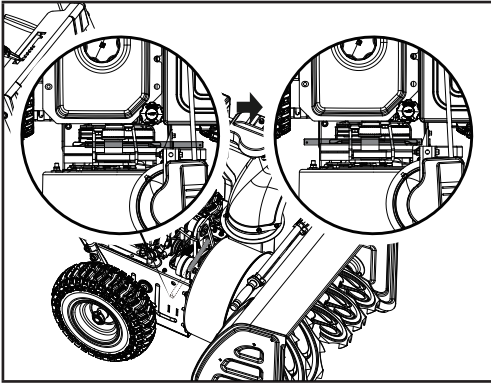

Figure 33
11. Reassemble the support rod by pushing back into place and ensure that it is properly engaged into the friction disc assembly and replace the washer and clip (Fig. 33).